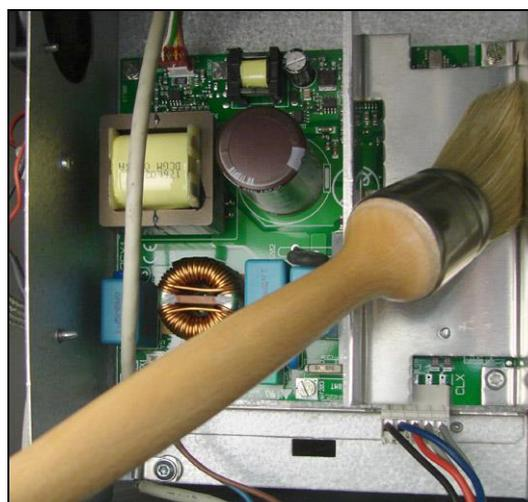

Fig. 3.3
3. Turn the inverter box towards the front of the machine to be able to clean the fan and heat sink properly (Fig. 3.3). Remove the dirt using a brush or a dry cloth.